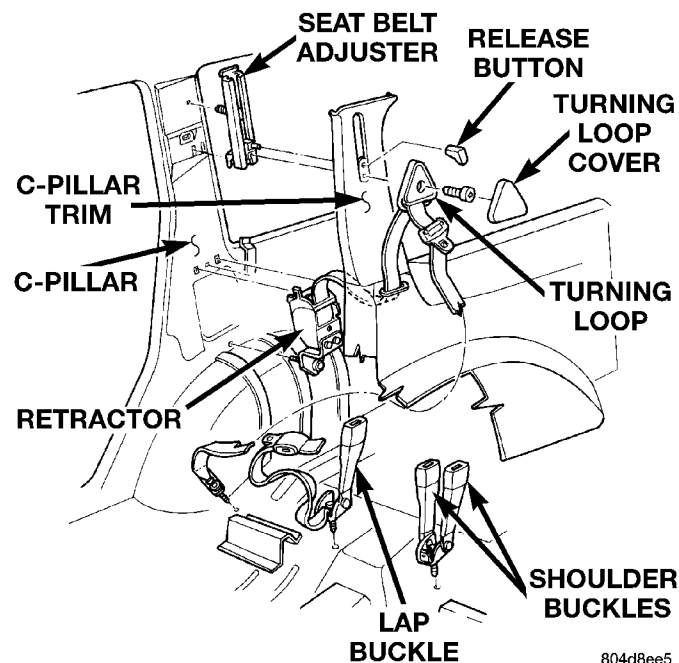

Fig. 48 Rear Seat Shoulder/Lap Belts & Buckles
- (1) Pull rear seat release loop and tilt seat bottom forward. Remove seat bottom from lower latch.
- (2) Unlatch seat back and tilt forward.
- (3) Remove shoulder belt buckle and lap belt/buckle anchor plate bolts from the floor panel (Fig. 48).
- (1) Unsnap turning loop cover.
- (2) Remove turning loop anchor bolt (Fig. 48).
- (3) Remove C-pillar and quarter trim panel.
- (4) Remove belt retractor anchor bolt from rear quarter rail.
- (5) Remove retractor and shoulder belt from panel.